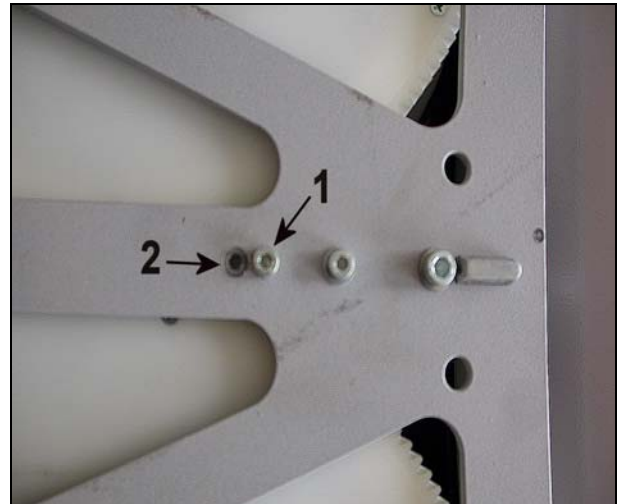

Fig. 2
- The lock of the cable module is released, the screw (1/Fig. 2) is in position (2/Fig. 2). The C-arm can be moved orbitally.
- Lock the cable module in this position. For this purpose, turn the screw (1/Fig. 2) into position (1/Fig. 2).
- The cable drum is still locked. The screw (1/ Fig. 2) is still screwed into position (1/ Fig. 2).
- Change the position of the stop screw of the cable module back from position (1/ Fig. 2) to position (2/ Fig. 2) and tighten it.
- The stop screw of the cable module is still in position (1/Fig. 2).